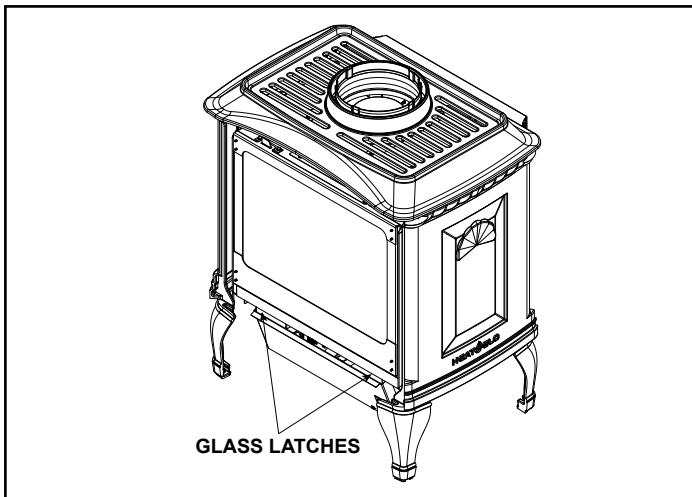

Figure 12. Remove Glass Frame
10. Release the glass latches on the lower corners of the appliance and remove the glass assembly. See Figure 12.